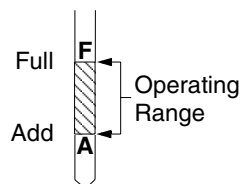
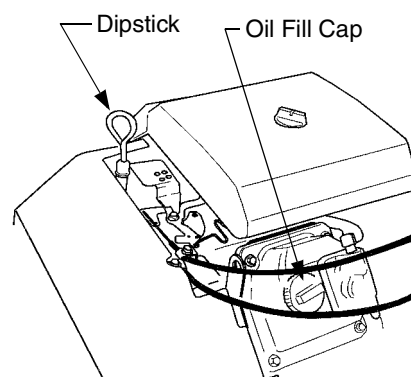

Figure 25
Figure 26
Before checking the oil level, clean the area around the oil level dipstick to prevent debris from entering the crankcase. See Figure 26. Always keep the oil level between the "FULL" and the "ADD" marks on the dipstick. See Figure 25.
- Clean the area around the oil filler cap to prevent debris from entering the crankcase. See Figure 26.
- Remove the oil filler cap from the left valve cover and SLOWLY pour in oil. Fill the crankcase until the oil level reaches the "FULL" mark on the dipstick. See Figure 25.
- Clean around the base of the oil filter, the oil filler cap, and the dipstick tube to prevent debris from entering the crankcase. See Figure 26 and Figure 28.